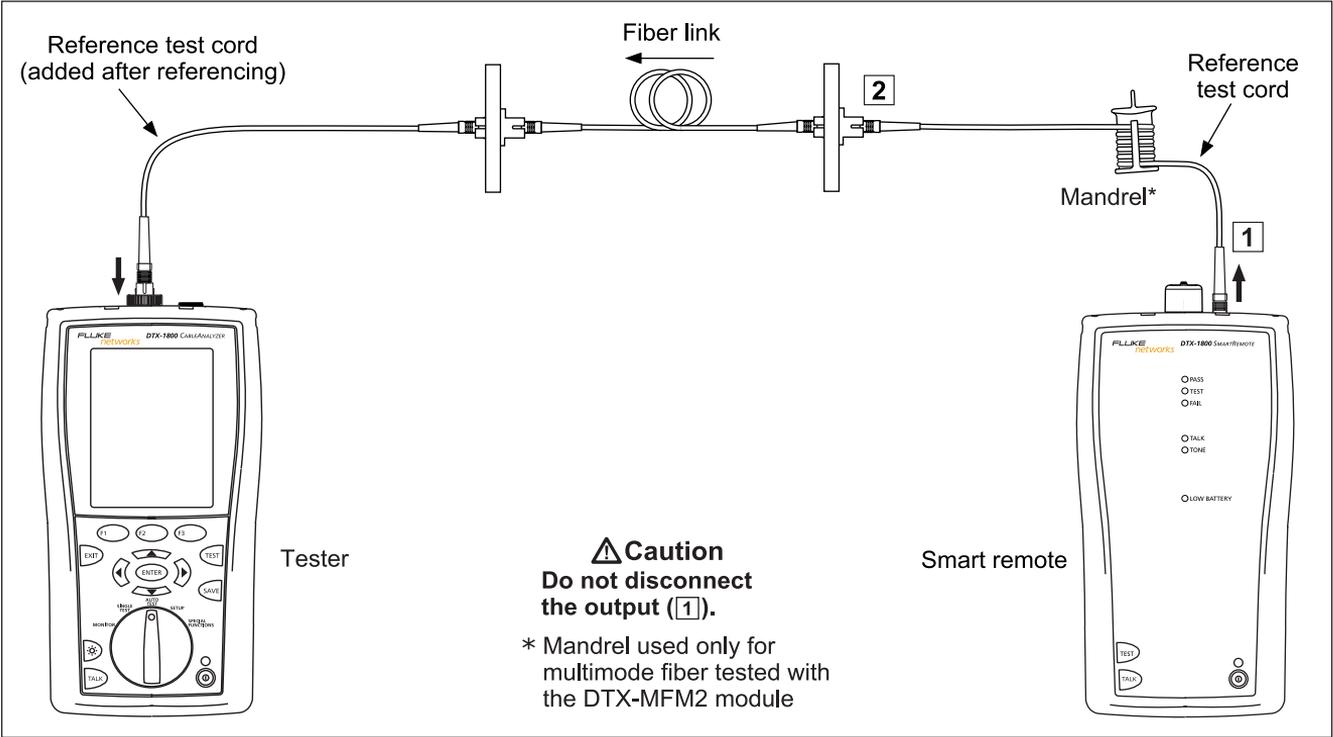

Figure 6-18. Far End Source Mode Test Connections (Method B)
- 3 Connect the tester to the cabling as shown in Figure 6-18.